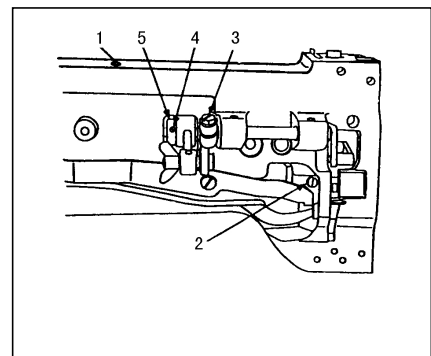

Fig.20
19. ADJUSTING THE HEIGHT OF THE PRESSER FEET (Fig.20)
This is the normal timing when turn the balance wheel toward you, after lowering the presser bar lifter, the vibrating presser foot should reach the feed dog earlier than the needle eye comes to, and when the needle raises, the vibrating presser foot should leave the feed dog after the needle eye has left the feeder. This is due the reason that the vibrating presser foot must tightly hold the goods while the needle is passing the goods for avoiding irregular stitches. To adjust this, set the lift of the alternating presser feet to equal, loosen the two screws 4 (Fig.20) and adjust the rotating position of the cam 5 (Fig.20) faster or slower as may be desired, and tighten the screws.